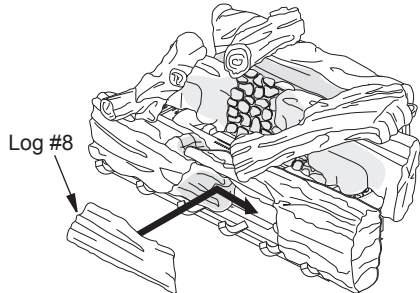

Figure 25 - Control Cover Log (Log #8) Placement
6. Slide control cover log (log #8) into place between front logs #3 and #4 (see Figure 25).